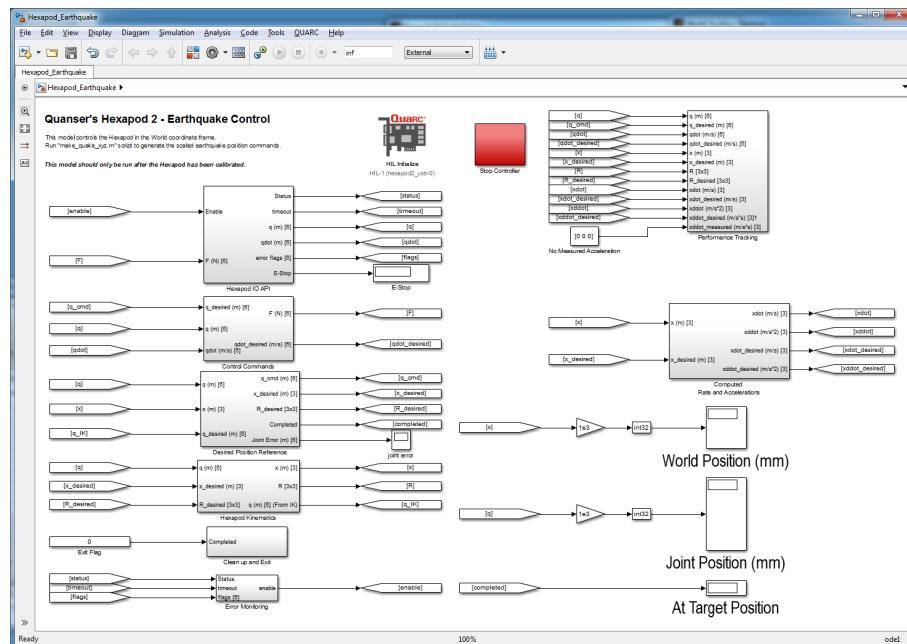

Figure 2.8: Simulink model used to command earthquake to the 6 DOF Hexapod using QUARC.
The Hexapod_Earthquake.mdl Simulink diagram shown in Figure 2.8 can be used to replay earthquake on the 6 DOF Hexapod system using QUARC®. Recorded earthquake data, i.e., data collected when an actual earthquake occurred, can be scaled down and ran on the Hexapod. Four historical earthquakes have been supplied for the user: Northridge, Kobe, El-Centro, and Mendocino. For instructions on how to download new earthquakes, see Section 3.3. The user can also specify and create a pre-defined compound sine wave trajectory.
- Open the Simulink model called Hexapod_Earthquake.mdl, shown in Figure 2.8.